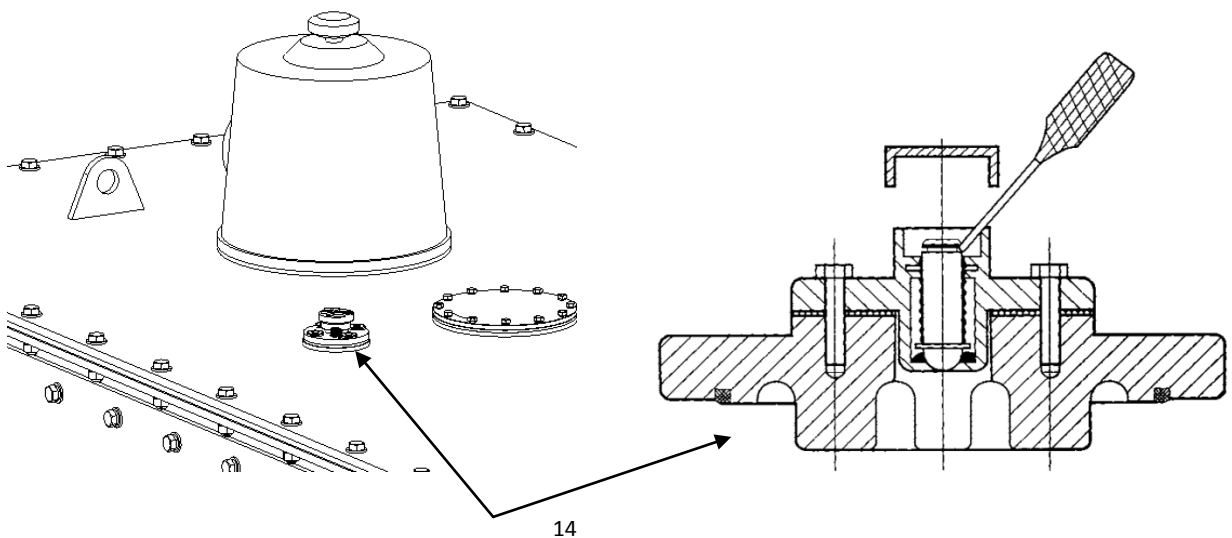

Fig. 12 Bleeding valve
2. Lever up the valve stem to release the gas in tap changer head by screwdriver (Fig. 12);